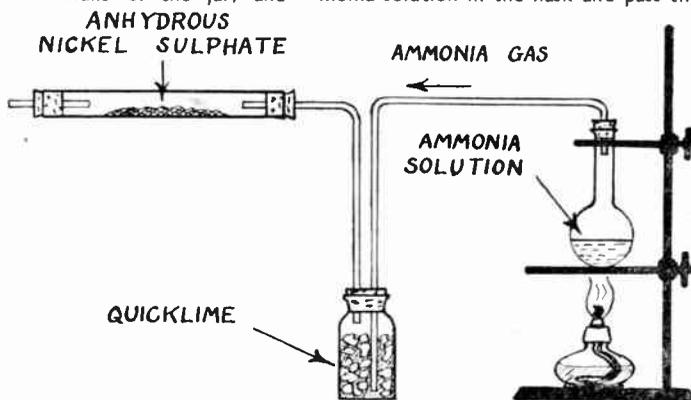

Fig. 2
Place this in a dry horizontal glass tube, as shown in Fig. 2. Generate ammonia gas by warming a little ammonia solution in the flask and pass the
The top view Fig. 1 and side views Figs. 2 and 3 clearly show in detail the method of making the gadget. Commence by making the pendulum rod, which is of $\frac{1}{2}$ in. diameter dowel rod firmly glued into the block marked (A). Cut this block of hardwood $1\frac{1}{2}$ ins. long, 1 in. wide and $\frac{1}{2}$ in. thick, and taper off as shown in Fig. 3. Drill the hole about $\frac{3}{16}$ in. deep and make it a tight fit, and, besides gluing, it can be fixed with a fine panel pin as it will have to bear a considerable weight.
Drill a hole about $\frac{3}{16}$ in. diameter in the centre of each end, and then cut as shown in Fig. 2, leaving a nice smooth curve for the knife edge to work on. The piece can now be screwed on to block (A), at the same time fixing on strip (B). This is just a right angle piece of brass 2 $\frac{1}{2}$ ins. long, $\frac{1}{2}$ in. wide and of 16 gauge thickness. The top portion is about $1\frac{1}{2}$ ins. long as shown in Figs. 1 and 2.